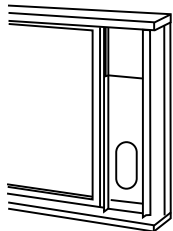

Fig.14
3. Cut the foam seal (adhesive type) to the proper length and attach it on the top of the window. Shown as in Fig.14.